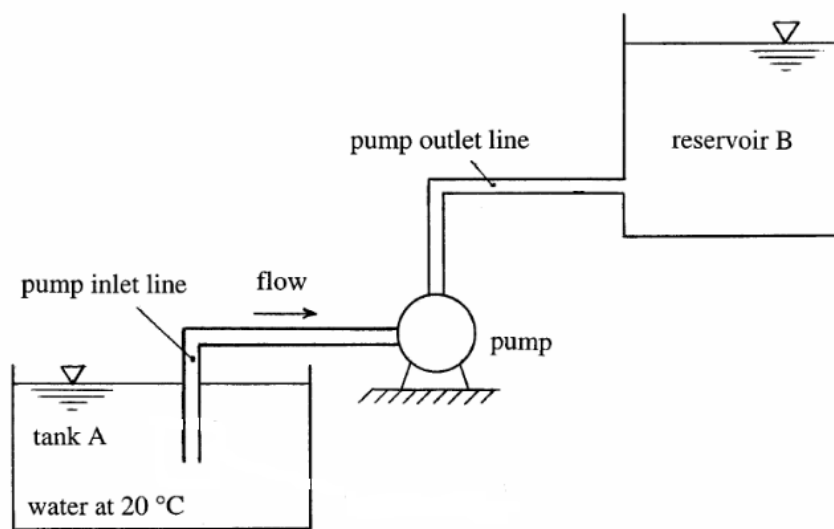

Figure Q3
- c) In the system shown in Figure Q3, water at 20°C is pumped from tank A to reservoir B at a rate of 40 l/s. The piping is all commercial steel. The inlet pipe is 10 m long and 120 mm in diameter. The outlet line is 150 m long and 110 mm in diameter. Only consider the energy loss near exit of the outlet line, with $k = 4$. Determine the electrical power required to drive the pump if its overall efficiency is 88%. Reservoir B's free surface is 25 m above that of tank A. [15]